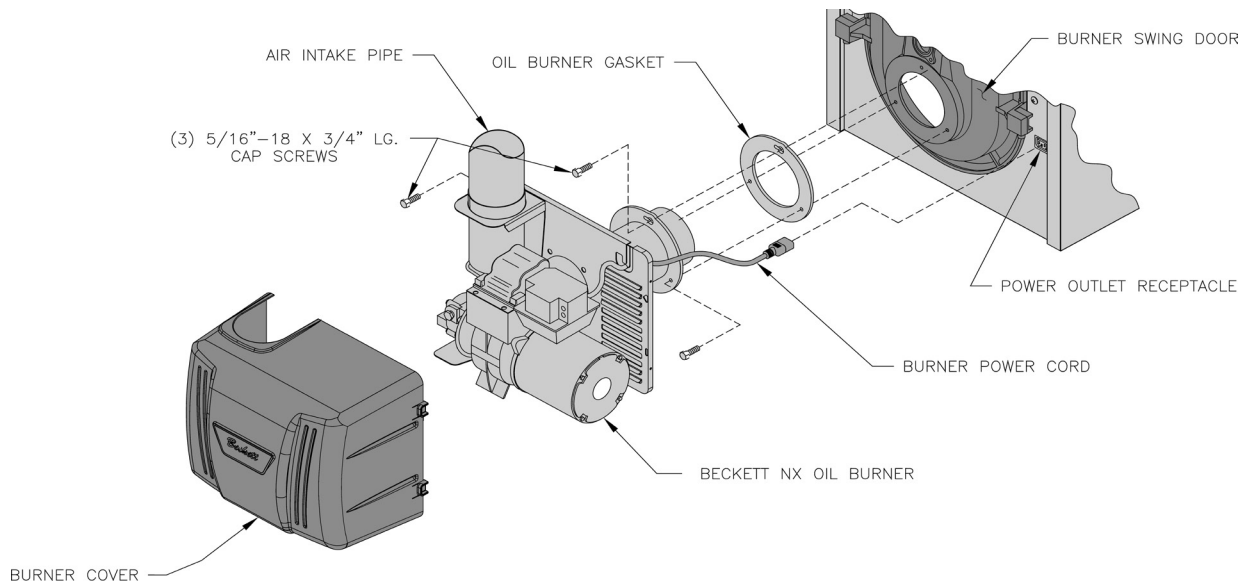

Figure 5-12: Oil Burner Installation (Beckett shown)
4. Remove burner cover. Loosen two screws securing outside air duct bracket to burner cover mounting plate. See Figure 5-12.
7. Secure the pipe to collar with at least (3) sheet metal screws (installer provided) evenly spaced around the collar.